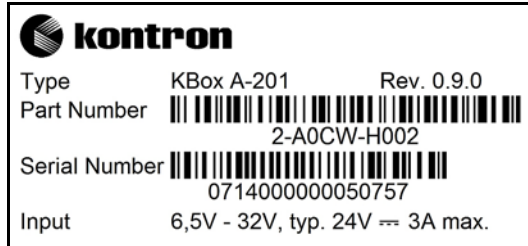

Fig. 1: Type label
The type label (product name, serial number) of your KBox A-201/A-202 system are located on the bottom side of the device (refer to Fig. 1 and Fig. 11, pos. 1).